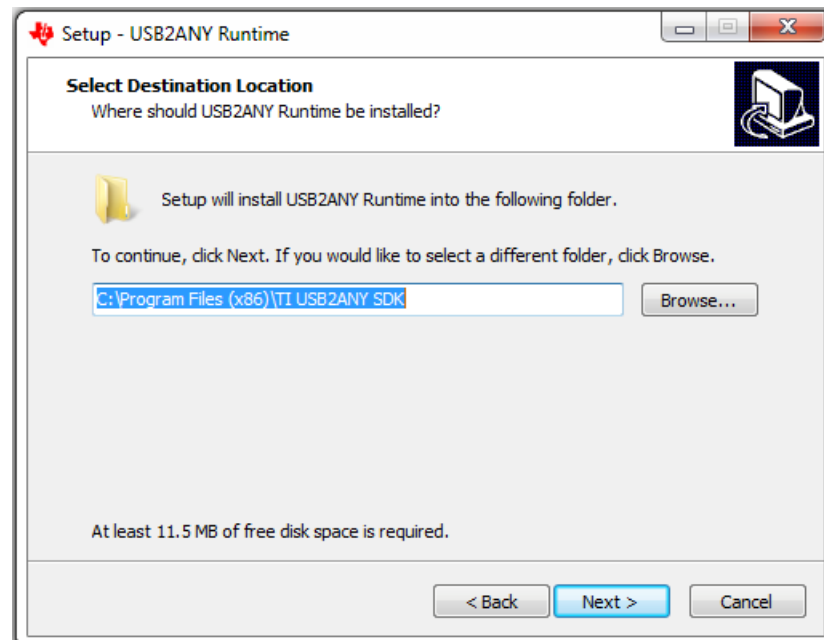

Figure 20. USB2ANY Destination Directory
11. Set the destination directories for the USB2ANY installation and press the *Next >* button as shown in Figure 20.